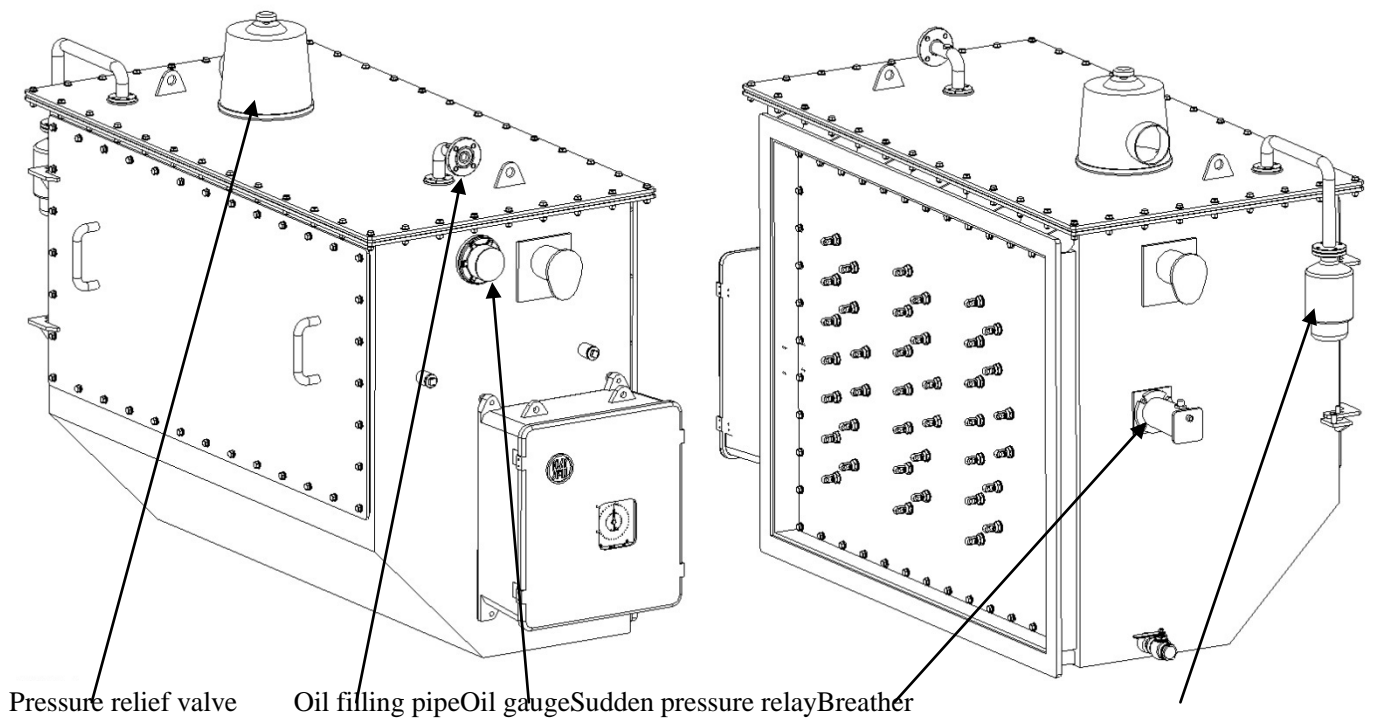

Fig. 2-2 Non-standard type oil compartment
- Type HWV OLTC (Fig. 2) : Tap changer is designed in two forms, Standard type and Non-standard type according to Fig. 2-1 and Fig. 2-2.